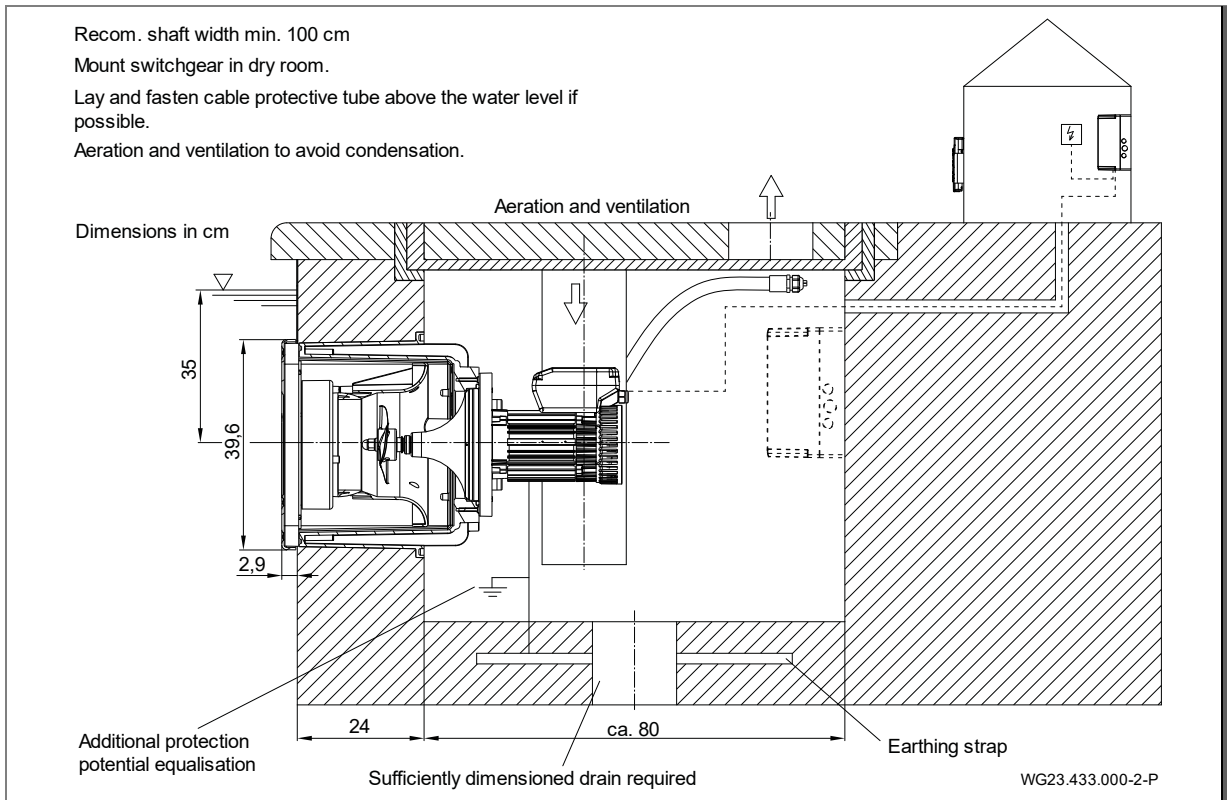

Fig. 17
1. Remove grease from the connection nozzle (d, (Fig. 17)) on the plastic housing (1) and the connection socket of the cable protection tube (12) with PVC-U/ABS cleaner.
The system must be installed in a shaft which borders the edge of the pool. The installation space must have perfect ventilation and sufficient ground drainage. There must be a fastening possibility for the cable protection hose (above the water level if possible). There must be a potential equalisation connection in the shaft. See "Fig. 17" on page 20.